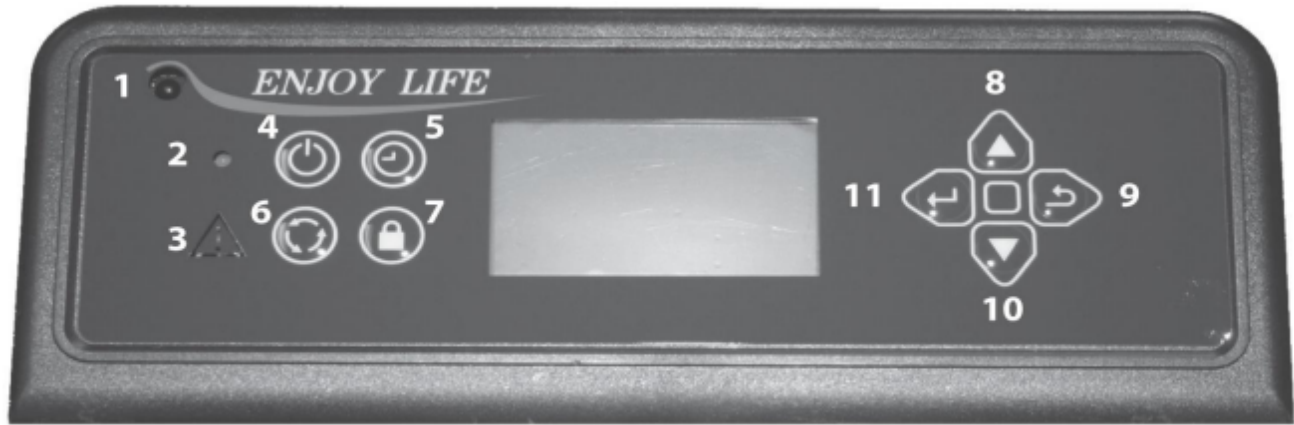

Figure 17: Control keypad
11. **Enter Button:** Pressing "Enter" button allows you to adjust and select data on the screen. Pressing the "Enter" button for 3 seconds will take you to a main menu screen in which you will have the ability to change the time, date, temperature display, weekly operation schedule (for Weekly Mode only) and combustion motor and voltage settings. *See Figure 17*
Selecting a mode while the stove is burning may cause the stove to shut down and may force a 30-minute delay in restarting. You do not need to start operation of the stove to select your mode. To choose the mode, locate the mode transfer button on the controller. (*#6 in Figure 17*)
To change the power level in manual mode, use the "Scroll Up" or "Scroll Down" buttons on the control pad. (See #'s 8 and 10 on Figure 17). Pressing either of these buttons once will move the power level up or down one level.